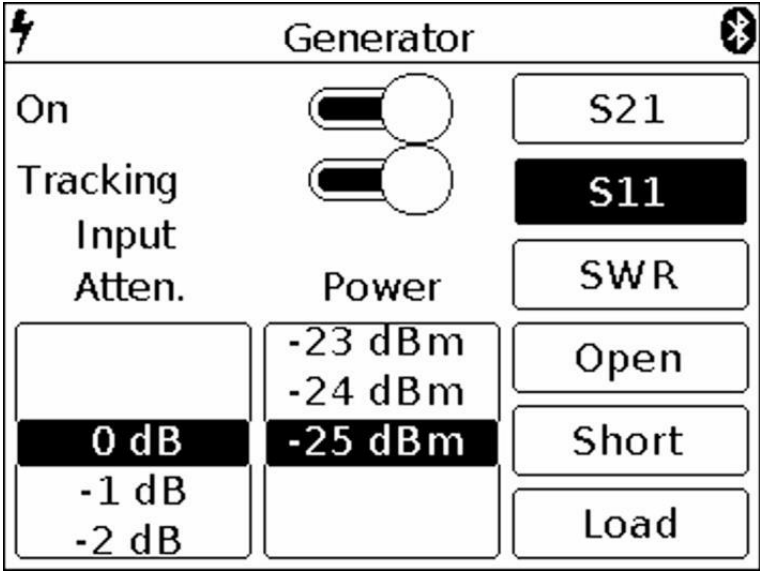

Figure 18 Turning on S11 mode
7.7.1. To measure the reflection coefficient, it is necessary to select the S11 mode (Figure 18).
7.7.4. Select the mode S11 in which you want to measure, as shown in figure 18. On the screen under the grid, the information label will display the mode S11 and the warning UNCAL (not calibrated).